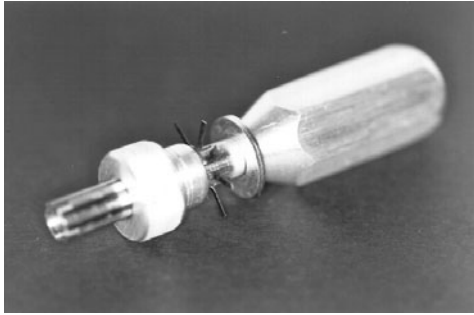

Figure 2.27 A tubular key lock pick is needed to pick tubular key locks.
- Tubular-key lock picks (Fig. 2.27)